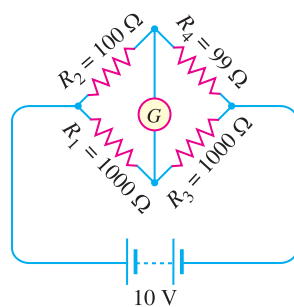

Fig. 1.52
- Using Thevenin's theorem, find the current through the galvanometer in the Wheatstone bridge shown in Fig. 1.52. **[38.6 μA]**